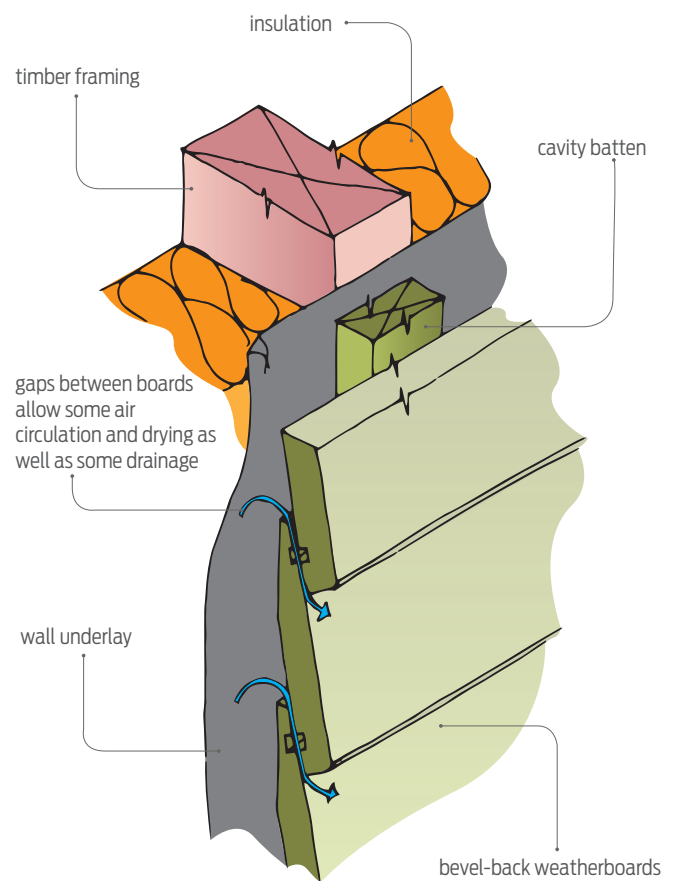

Figure 1: Additional ventilation through gaps.
- For claddings that are considered well vented, such as bevel-back timber weatherboards, a significant amount of air gets in through the laps, which increases the potential rate of drying (see Figure 1).